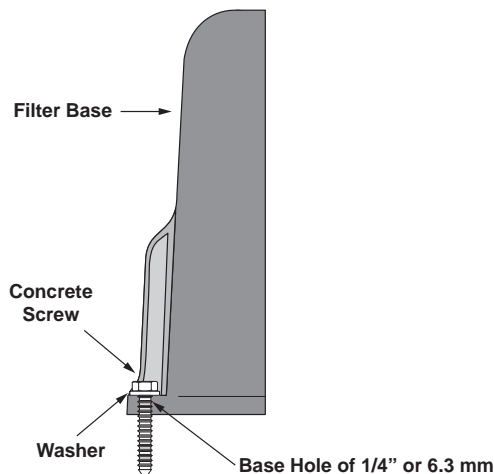

Figure 4. Install Anchor Screws
1. After placing the filter, drill a hole at each of the three (3) holes in the base of the filter. (The correct size concrete drill bit should be obtained when the concrete screws are purchased.) The concrete screws must meet any and all applicable building code requirements.
2. Install the screws and washers to secure the filter to the equipment pad. See Figure 4. Do not over torque the screws.